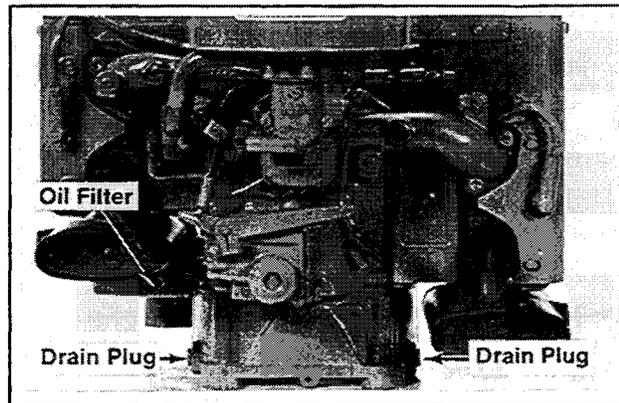

Figure 3-2. Oil Filter And Oil Drain Plug Locations.
- Remove the oil drain plug and oil fill cap/dipstick. Refer to Figure 3-2. Tilt the engine slightly towards the drain hole to obtain better drainage.